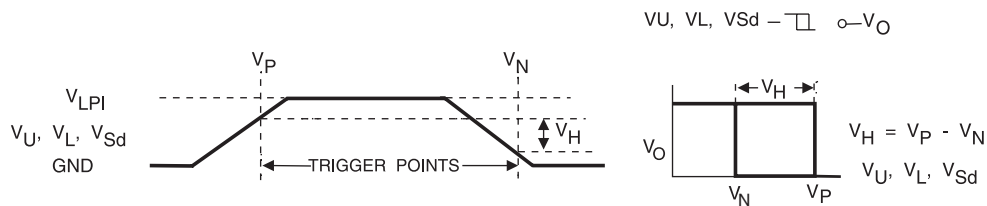

FIGURE 7. HYSTERESIS DEFINITION AND CHARACTERISTICS
The PWR-82331/82333 uses Schmitt triggered digital inputs (with hysteresis) to ensure high-noise immunity. The trigger switches at different points for positive and negative going signals. The hysteresis voltage ( $V_H$ ) is the difference between the positive going voltage ( $V_P$ ) and the negative going voltage ( $V_N$ ) (see FIGURE 7). The digital inputs have programmable logic levels, which allows the hybrid to be used with different types of commutation logic with an input voltage range of +5 V to +15 V, such as TTL or CMOS logic. The PWR-82331/82333 internal power supply generates a +15 Vdc ( $V_{LPO}$ ) on pin 15. This output can only be used to power the internal digital circuitry within the hybrid. **Do not use this +15 V output to power any circuitry external to the hybrid.** Pin 16 is the logic power input ( $V_{LPI}$ ) for the digital circuitry inside the hybrid. **A 0.01 mF, +50 V ceramic capacitor must be placed between this pin (16) and GND as close to the hybrid as possible.** When using +15 V control circuitry, the logic power input (pin 16) can be connected directly to logic power output (pin 15) of the hybrid. There is no need for an additional external power supply.